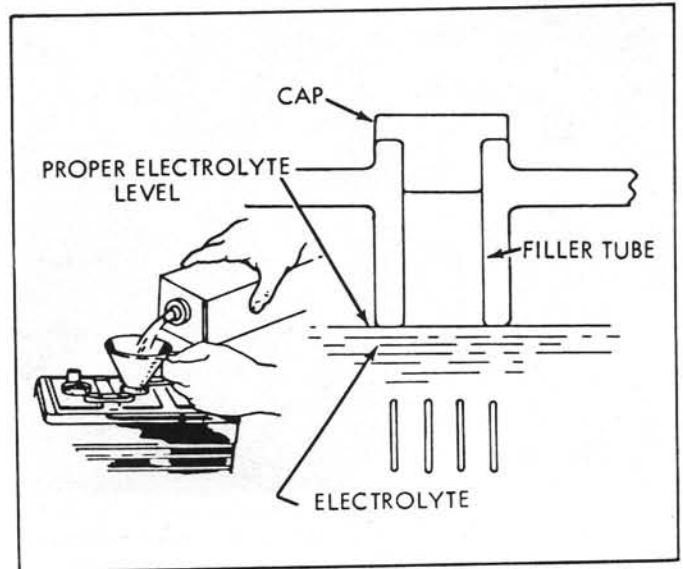

Figure 8.
1. **BATTERY** - Lift up battery access panel (See Fig. 1). Check the water level of the battery by removing each of the six caps. If the level is below the bottom of the filler tube (See Fig. 8), fill with distilled water.